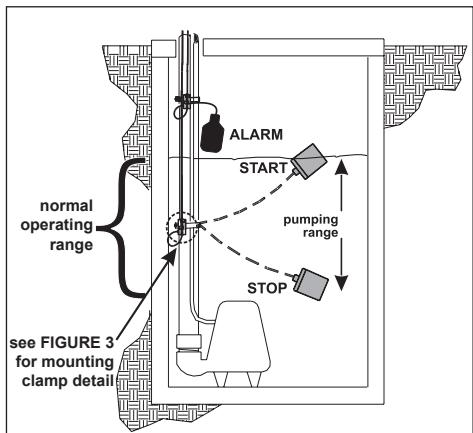

FIGURE 1
1. Determine your normal operating level, as illustrated in **Figures 1 & 2**.